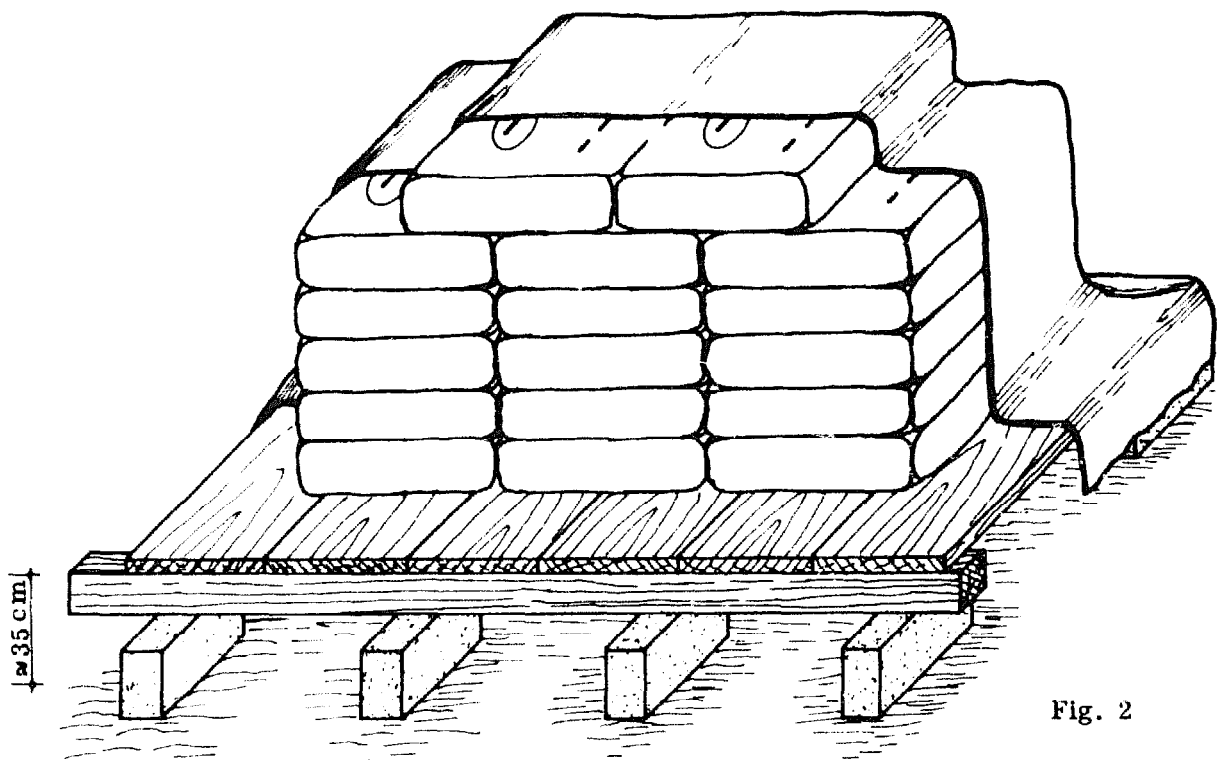

Fig. 2
- TYPES OF CEMENTS (Fig. 2):
Even if the cement is to be stored in the open for only an hour or so, there must be a dry platform raised about 35 cm above the ground for the bags to lie upon (Fig. 2).